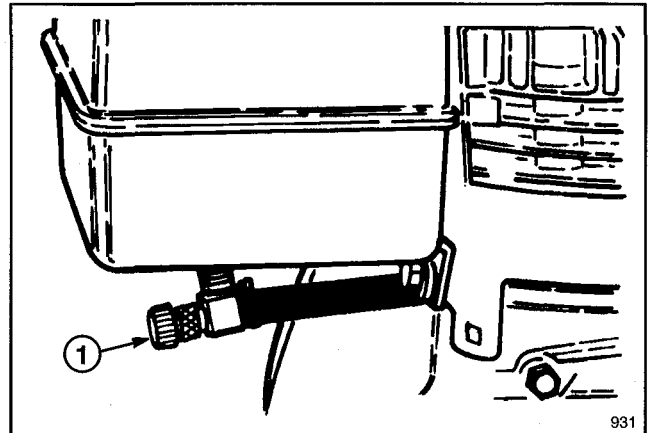

Figure 14
Fuel Shut-Off Valve (Fig. 14)—Valve is located under fuel tank. Close valve to stop fuel flow from fuel tank and open valve to allow fuel to flow to the carburetor. Close valve when snowthrower is not used.
3. Open fuel shut-off valve below fuel tank (Fig. 14).